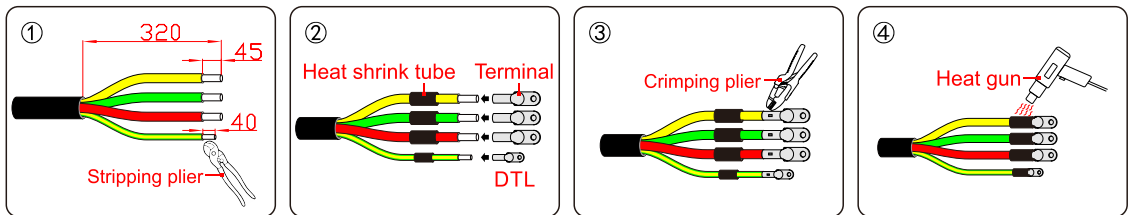

Figure4-17 Crimp the AC cables
Step 4 Crimp the AC output cables, as shown in Figure4-17.